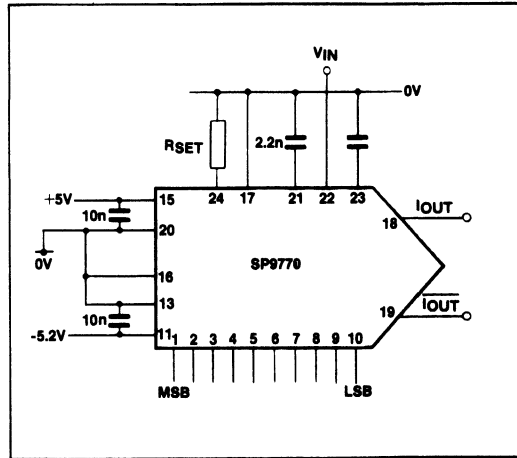

Fig.5 Multiplying mode operation (voltage mode)
Multiplying mode - voltage (see Fig.5)
**Voltage multiplying.** A circuit for using the DAC in voltage multiplying mode is shown in Fig.5. The transfer function is approximately:  $I_{OUT} \text{ (Full Scale)} = 4 \times V_{IN}/R_{SET}$ . While this mode offers the best linearity of operation, the frequency response limitations outlined in Note 3 mean that the maximum useable bandwidth is limited to approximately 35kHz.